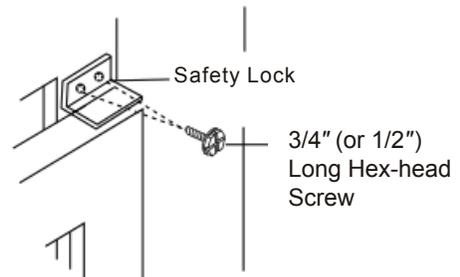

Fig.19B
2. Attach right angle safety lock. (Fig. 19B)